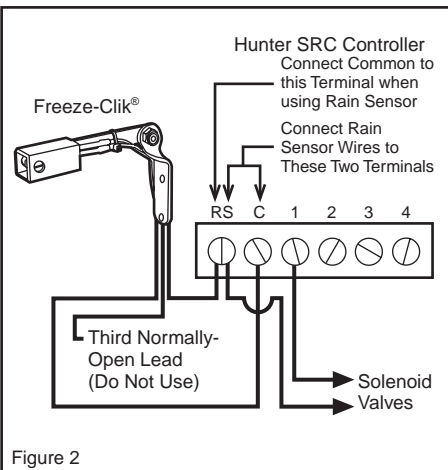

Figure 2
2. Connect one wire to the RS terminal and other to the C terminal (See Figure 2).